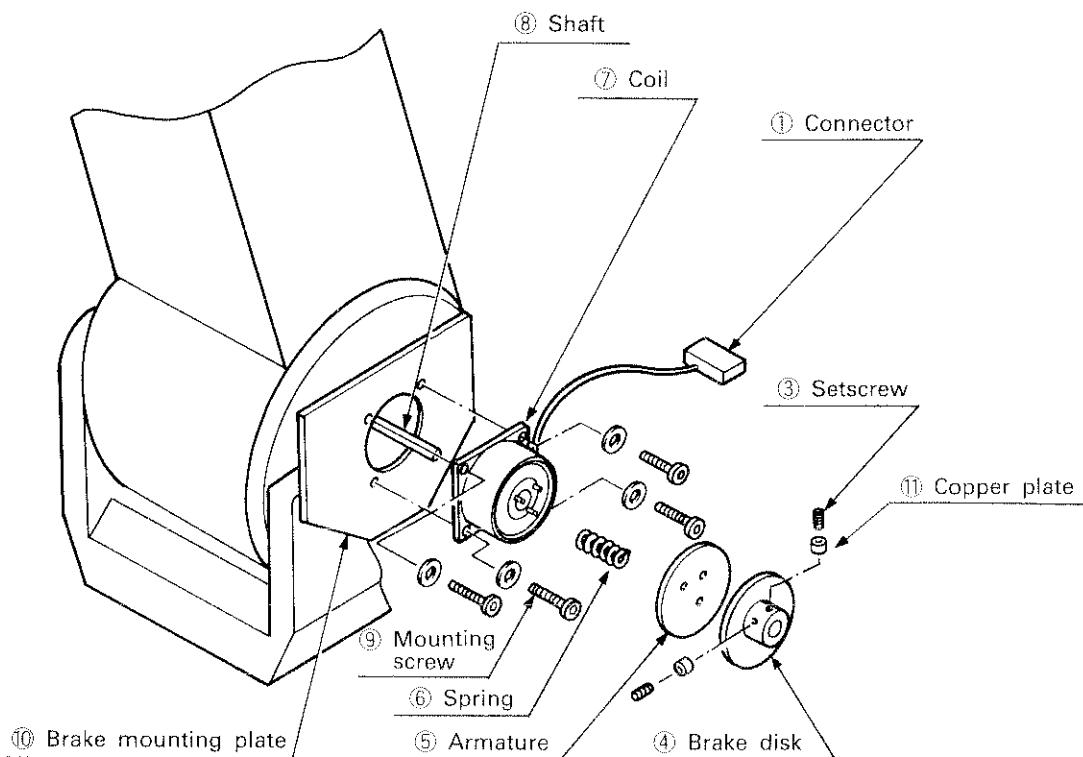
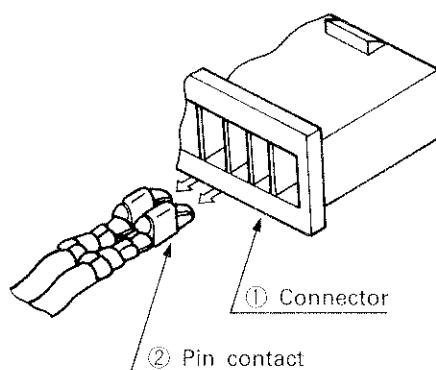

Fig. 4.3.18 Elbow Brake Parts Identification
Fig. 4.3.19 Removing the Pin Contacts
- (1) Fig. 4.3.18 also outlines the replacement procedure of the elbow brake.
- (2) Make sure that the power switch on the drive unit rear panel is in the OFF position.
- (3) Remove the upper and lower shoulder covers by referring to 3.2 Removal of the Covers.
- (4) The brake connector ① (connector name: "PW") is plugged into position inside the shoulder covers.
- (5) Unplug the elbow brake pin contacts ② (contact Nos. 3 and 4) from the receptacle housing in the connector ①. See Fig. 4.3.19.
- (6) Remove the two setscrews ③. At this time, use care not to lose the copper plates ⑪. Then, remove the brake disk ④, armature ⑤, and spring ⑥ from the shaft ⑧.